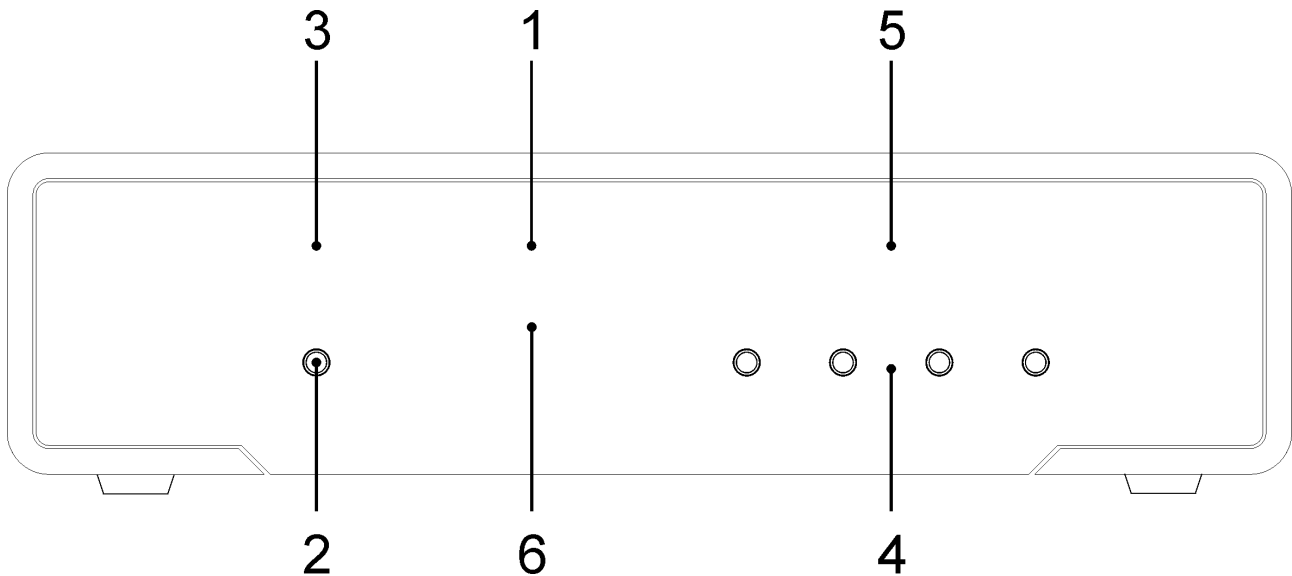
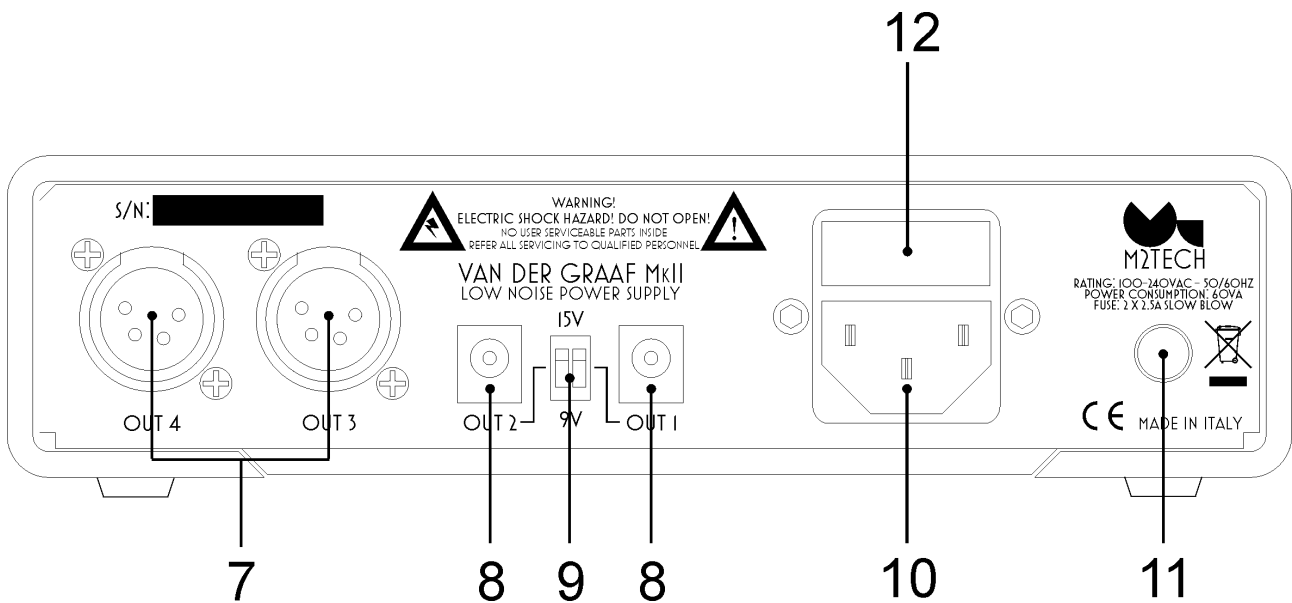

Figure 1
Figure 2
**2) Global enable button.** Push this button to activate the VAN DER GRAAF MKII when it's in standby (LED 1 on and LED 3 off). Following the operation of this button, all outputs previously enabled by the user with their buttons (item 4, Fig. 1) will activate, in the same sequence as the user manually activated them, with 1 second intervals. The related LED's will turn on to indicate activation. During the process, LED 3 blinks. At the end of activation process, LED 3 glows steadily. When the VAN DER GRAAF MKII is active, user may put the VAN DER GRAAF MKII in standby, disabling the outputs in reverse order with regards to activation, by pushing this button. In the process, LED 3 blinks. At the end of disable process, LED 3 turns off.
**6) IR receiver.** The VAN DER GRAAF MKII senses the on/off commands from other M2Tech products' remote controls, when purposely set by the user. Operation is same as the global enable button (item 2, Fig. 1).
**11) Power switch.** Push this switch to toggle VAN DER GRAAF MKII power. When powering the unit, the power LED (item 1, Fig. 1, Pag. 9) will glow and the VAN DER GRAAF MKII will enter standby.
Connect one or two units with +15V or +9V single supply input to VAN DER GRAAF MKII output 1 and 2 (Fig. 2, 8), using the stock cable, after selecting the right output voltage for each powered unit. For example, when powering a YOUNG MKIII with output 1, the voltage selector closest to the output socket (Fig. 2, 9) must be set to the upper position. On the other hand, when output 2 is used to power an old HIFACE EVO, then the voltage selector closest to it must be set to the lower position.
Connect one or two units with composite supply input (+5V/+15V/-15V) to VAN DER GRAAF MKII output 3 and 4 (Fig. 2, 7), using the stock cables. One such unit is, for example the NASH.
Connect the stock power cord to VAN DER GRAAF MKII power socket (Fig. 2, 10) and to a wall outlet.
Push the power switch on the back panel (Fig. 2, 11) to turn the VAN DER GRAAF MKII on. The power LED on the front panel (Fig. 1, 1) will glow. The VAN DER GRAAF MKII will enter standby, waiting for enabling by the user.
Push the global enable button (Fig. 1, 2). At first enable, this action will have no effect on outputs. At following enables, if the user has previously enabled one or more outputs, they will activate in the same order as the user manually enabled them.
When the VAN DER GRAAF MKII is in standby (only power led on, item 1, Fig. 1, Page 9), it is possible to activate it pushing the global enable button (Fig. 1, 1) or, when purposely set, by sending an on/off command from an M2Tech Rockstars product's remote control. Immediately after this, the global enable LED (Fig. 1, 3) starts blinking and the previously enabled outputs are activated in the order chosen by the user, at one second intervals. At the end of the activation process, the active outputs are indicated by the related LED, which is on, and the global enable LED glows steadily.
**NOTE: the outputs activation sequence is stored by the VAN DER GRAAF MKII when it enters standby. If the power switch (Fig. 2, 11, Page 11) is used to shut down the VAN DER GRAAF MKII, then the sequence, even if changed from the previous standby, is not stored and the VAN DER GRAAF MKII will use the last stored sequence upon following activation, not the latest one.**